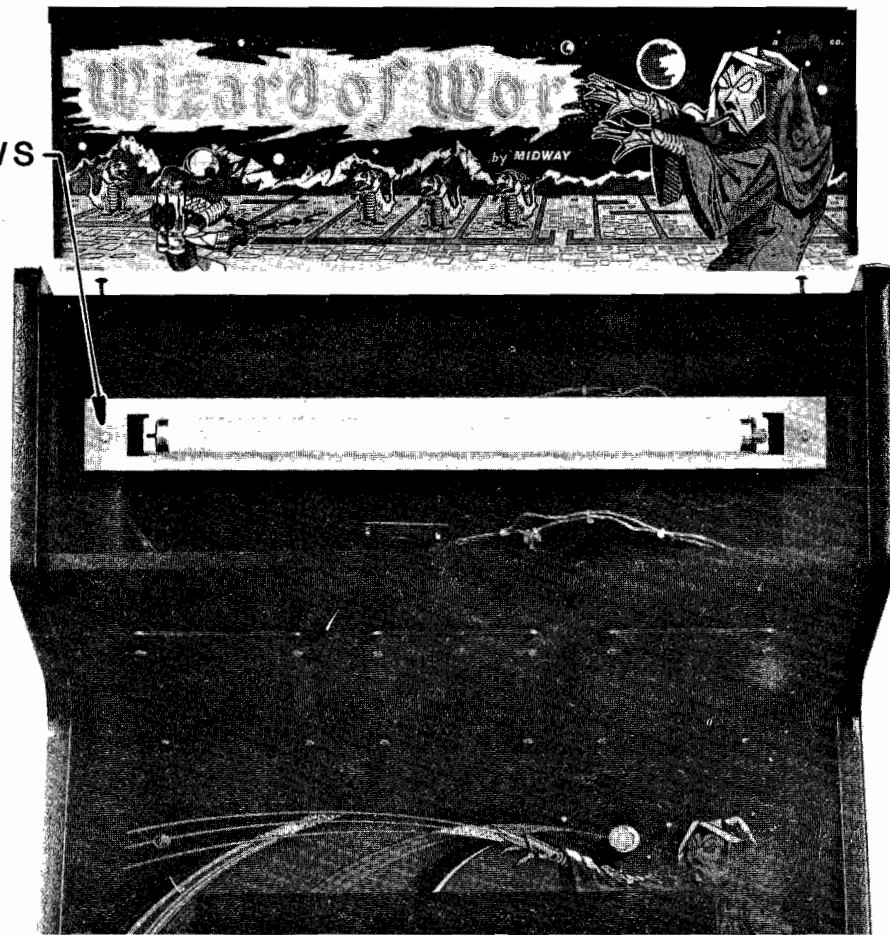

FIG.31
- g. Replacing the speaker(s) — See Figure 31:
- ii. Completely disconnect the speakers from their cabling. See Figure 31.